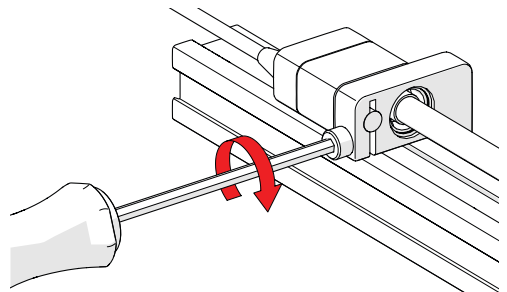

Fig. 66 - Tighten clamp screw
3. Lock the encoder in place by tightening the 3 mm clamp screw on the index encoder support bracket (*Fig. 66*).